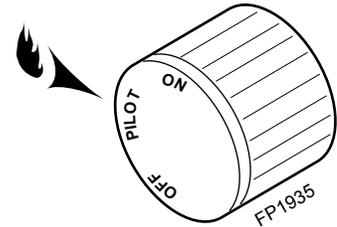

Figure 4
1. Attach flex connector. Turn on the gas shut off valve. Turn the control knob to the "PILOT" position only. *Figure 4*